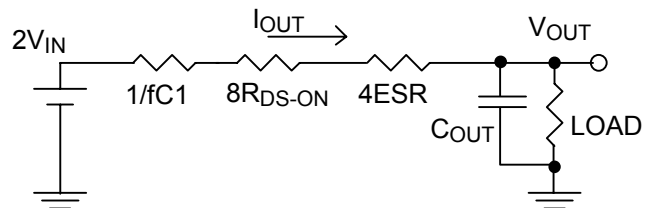

Fig. 22 The equivalent circuit of charge pump
According to equation (16), when the duty cycle is 0.5, the equivalent circuit of the charge pump is shown in Fig. 22. The term $8R_{DS-ON}$ is the total effect of switching resistance, $1/fC_1$ is the effect of flying capacitor and $4ESR$ is its equivalent resistance.
From the equivalent circuit shown in Fig. 22, it is seen that the terms $1/fC_1$, $4ESR$ and $8R_{DS-ON}$ should be as small as possible to get large output current. However, since the R_{DS-ON} is internal to the SS6845G, all that can be done is to lower the values of $1/fC_1$ and ESR . However even if the values of $1/fC_1$ and ESR can be kept as small as possible, the term $8R_{DS-ON}$ still dominates the limit of the maximum output current.